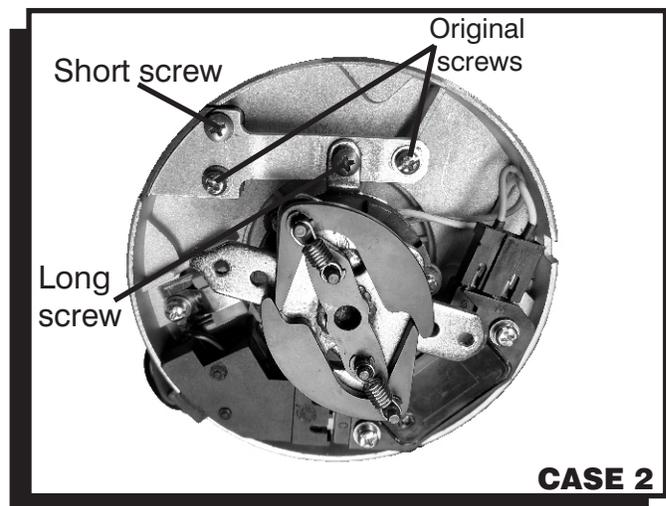

Figure 6.
7. CASE 2. Use the long screw provided to hold the pickup in place and one of the original screws to secure the lockout plate to the base of the distributor. (Figure 6).